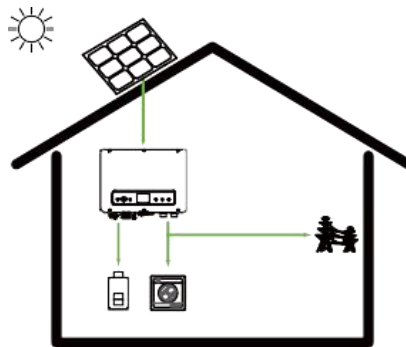

Fig:3.4.3.1)
3.4.3.1) In the valley level, the grid and PV charge the batteries.(Fig:3.4.3.1)